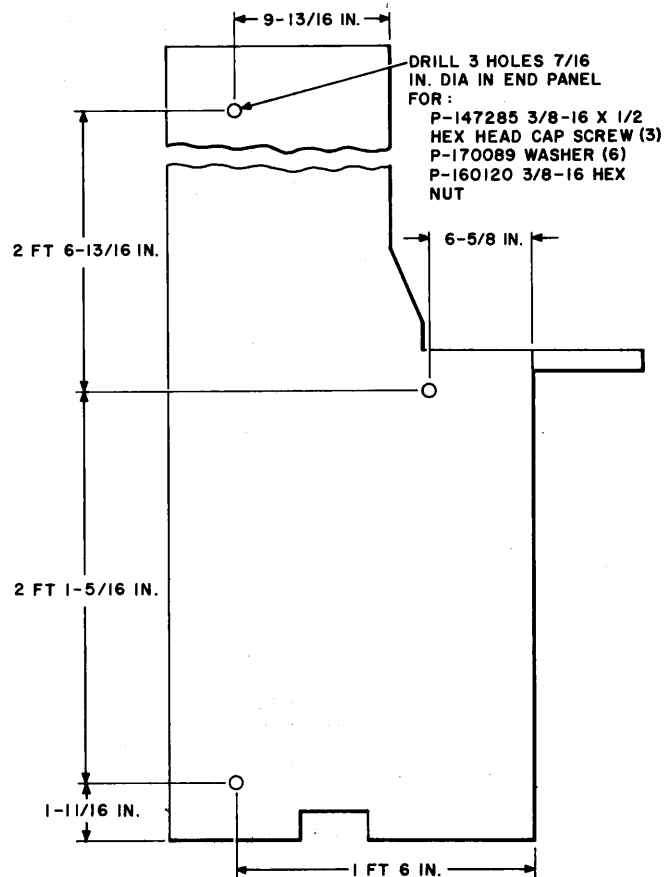

Fig. 17—Separation Panel Modification Detail
- (1) Perform the work operations outlined in paragraphs 3.01 through 3.06.
- (2) Modify one side panel as shown in Fig. 17 and use it to separate the adjacent positions.
- (3) Before aligning the positions, remove the casing mounting clips from the side of the position which is to be butted against the finished side of the modified panel being used as the separator. Align the positions and bolt them together, using the hardware shown in Fig. 17 or equivalent.